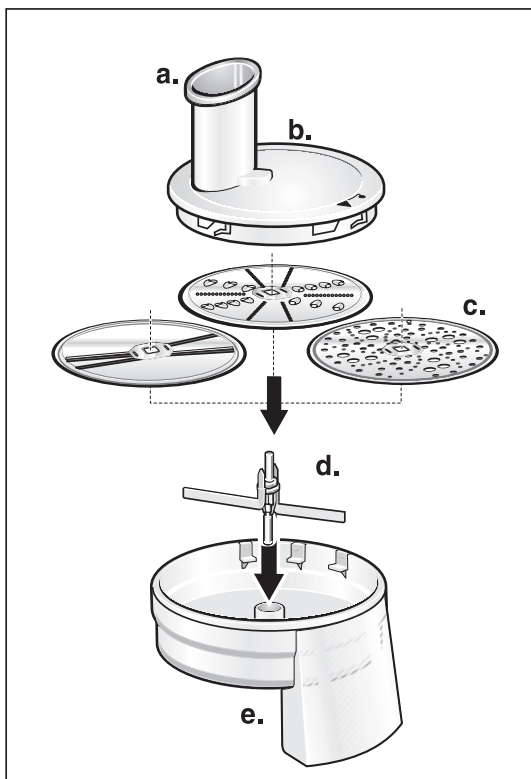

Figure 9
The MUM 4750 UC Bosch Kitchen Machine includes a continuous shredder attachment. The continuous shredder attachment consists of, figure 9:
3. Assemble the continuous shredder in the order as shown in figure 9: